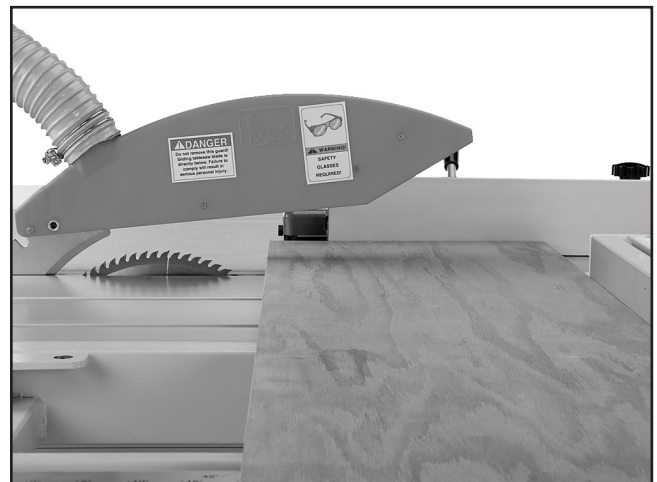

Figure 72. Correct rip fence position when using it as a cut-off gauge.
5. Slide the leading end of the rip fence behind the back edge of the blade as shown in **Figure 72**.